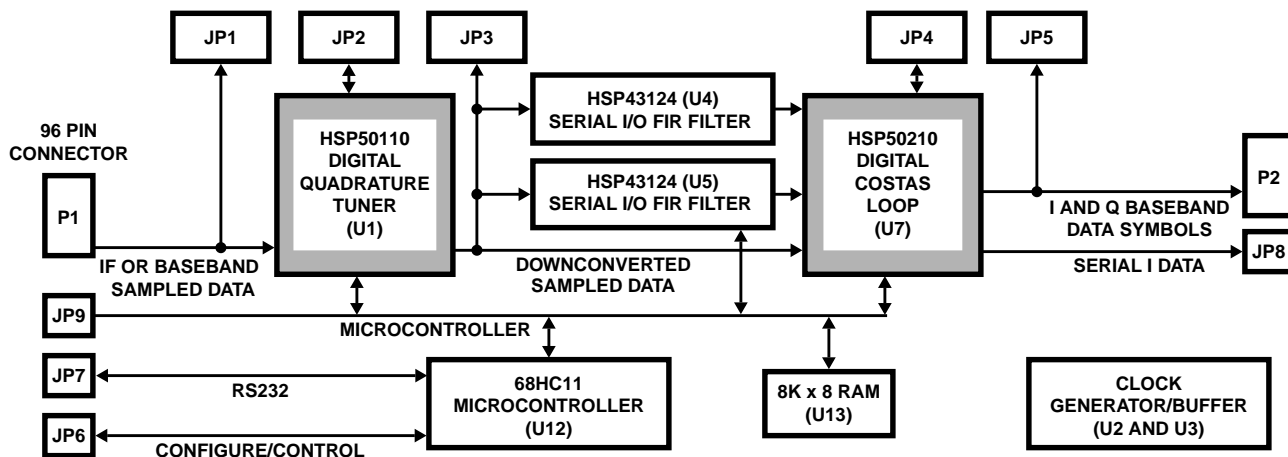

FIGURE 1.
Figure 1 illustrates the major functions of the evaluation circuit board. The circuit board is a 3U x 160mm VME/Eurocard form factor with dual 96 Pin I/O connectors. The connector pinouts conforms to the VME P2 Connector Pinout (i.e., power pin positions located on the middle row and I/O pin positions located on the outer rows). Data enters the board on the P1 96 Pin Plug Connector and is routed through the HSP50110 Digital Quadrature Tuner to the HSP50210 Digital Costas Loop. Data leaves the board through the P2 Plug Connector. For applications requiring custom filtering, the HSP43124 Serial I/O FIR Filter can be inserted in the data path prior to the Digital Costas Loop. An on-board microcontroller, a Motorola 68HC11, provides a control and status interface to the serial port of a Personal Computer (PC) running the Control/Status Software Program. The microcontroller EPROM contains the Motorola Monitor Program which provides the serial interface to the PC. Test connectors are provided at key signal and control locations in the demodulator circuit.